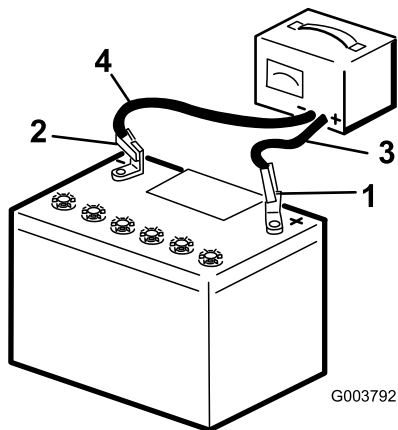

Figure 131
5. Connect the positive lead of the battery charger to the positive battery post (Figure 131).
6. Connect the negative lead of the battery charger to the negative battery post (Figure 131).
8. When the battery is fully charged, unplug the charger from the electrical source, then disconnect the charger leads from the battery posts (Figure 131).